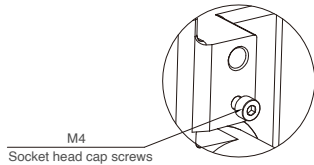

Fig.1a
- Step 1.** Secure the yoke and fixture with appropriate fasteners directly to a structural member; Adjust the angle (6x30°) of the yoke and fix the position with M8 and M4 screws (provided), follow the steps, see fig 1a / 2a.